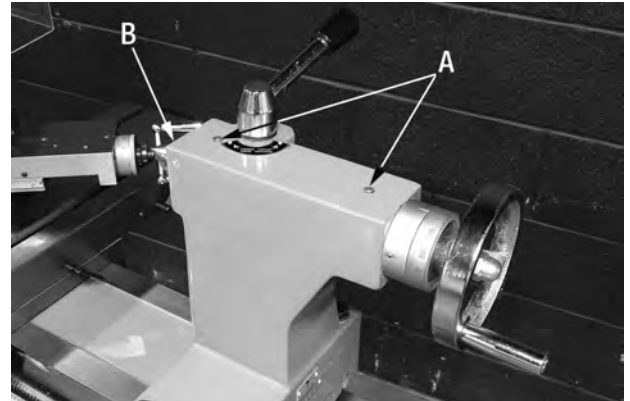

FIGURE 49
Tailstock: The tailstock is fitted with 2 oiling ports (A) Fig.49. The tailstock quill (B) may be oiled directly. Apply oil each week or after every five uses (depending on the frequency of operation).